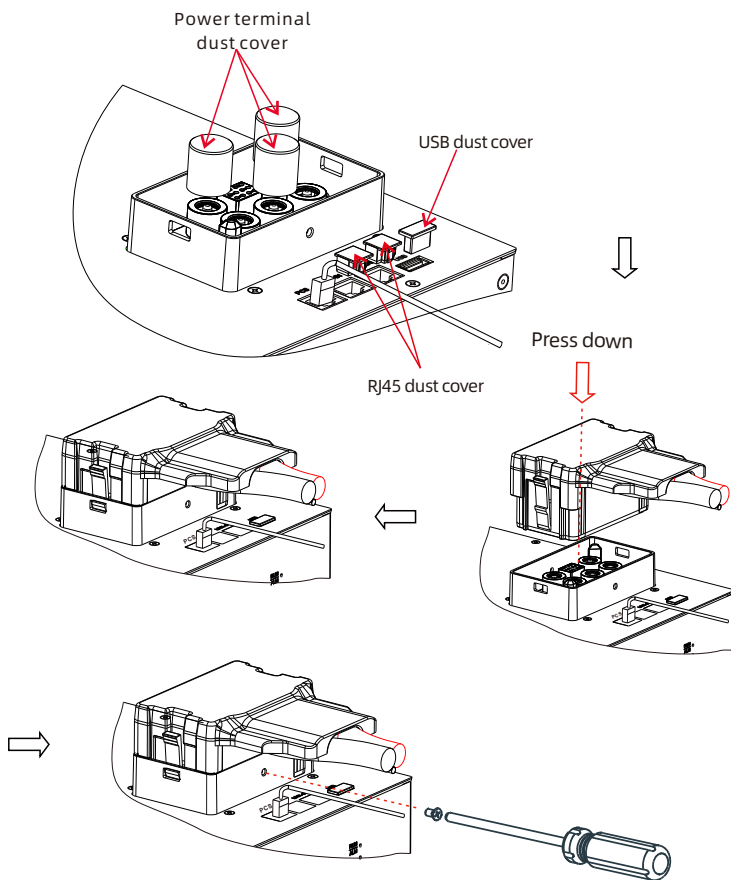

Fig 4.8: Power connection
- 1) Refer to Figure 4.8 for power line wiring.